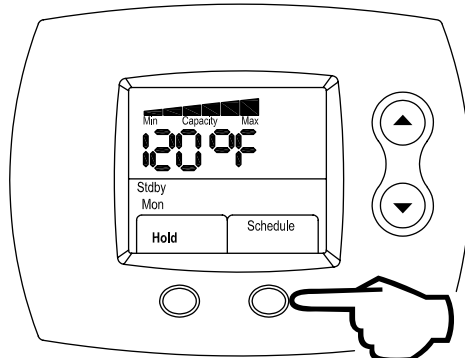

Figure 105
Step 3: To manually exit a Temporary Hold, press the **RIGHT** (Schedule) button, as shown in Figure 105.